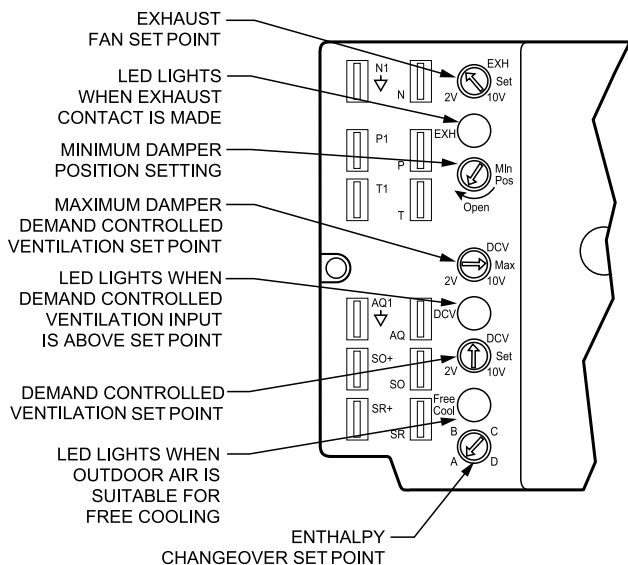
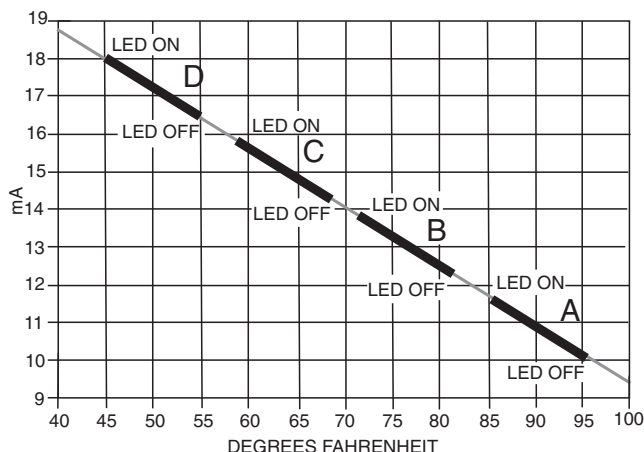
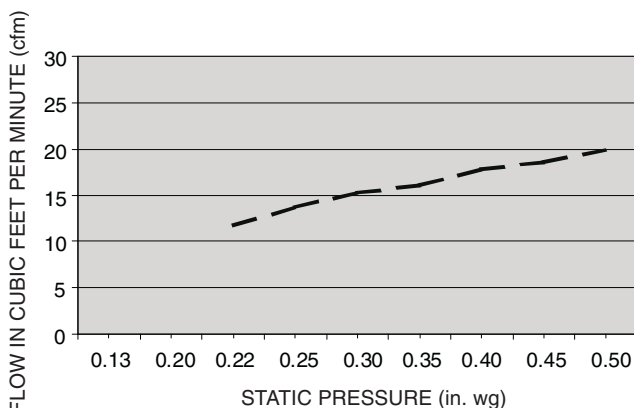

Fig. 71 — EconoMi\$er IV Controller Potentiometer and LED Locations
Fig. 72 — Outside Air Temperature Changeover Set Points
Fig. 73 — Outdoor-Air Damper Leakage
The standard controller is shipped from the factory configured for outdoor dry bulb changeover control. The outdoor air and supply air temperature sensors are included as standard. For this control mode, the outdoor temperature is compared to an adjustable set point selected on the control. If the outdoor-air temperature is above the set point, the EconoMi\$er IV will adjust the outside air dampers to minimum position. If the outdoor-air temperature is below the set point, the position of the outside air dampers will be controlled to provided free cooling using outdoor air. When in this mode, the LED next to the free cooling set point potentiometer will be on. The changeover temperature set point is controlled by the free cooling set point potentiometer located on the control. See Fig. 71. The scale on the potentiometer is A, B, C, and D. See Fig. 72 for the corresponding temperature changeover values and Fig. 73 for damper leakage.
In this mode of operation, the outdoor-air temperature is compared to the return-air temperature and the lower temperature airstream is used for cooling. When using this mode of changeover control, turn the enthalpy set point potentiometer fully clockwise to the D setting. See Fig. 71.
The exhaust set point will determine when the exhaust fan runs based on damper position (if accessory power exhaust is installed). The set point is modified with the Exhaust Fan set point (EXH SET) potentiometer. See Fig. 71. The set point represents the damper position above which the exhaust fans will be turned on. When there is a call for exhaust, the EconoMiSer IV controller provides a 45 ± 15 second delay before exhaust fan activation to allow the dampers to open. This delay allows the damper to reach the appropriate position to avoid unnecessary fan overload.
There is a minimum damper position potentiometer on the EconoMiSer IV controller. See Fig. 71. The minimum damper position maintains the minimum airflow into the building during the occupied period.
3. Ensure that the factory-installed jumper is in place across terminals P and P1. If remote damper positioning is being used, make sure that the terminals are wired according to Fig. 71 and that the minimum position potentiometer is turned fully clockwise.